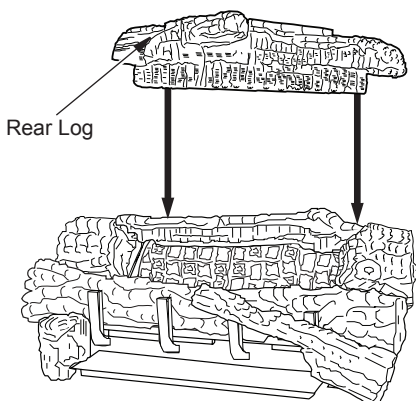

Figure 29 - Installing Rear Log
8. Rest the rear log (18" D-069, 24" & 30" D-043) on the chassis behind the rear burner as shown in Figure 29. The bottom of the rear log will sit into the rear log supports.